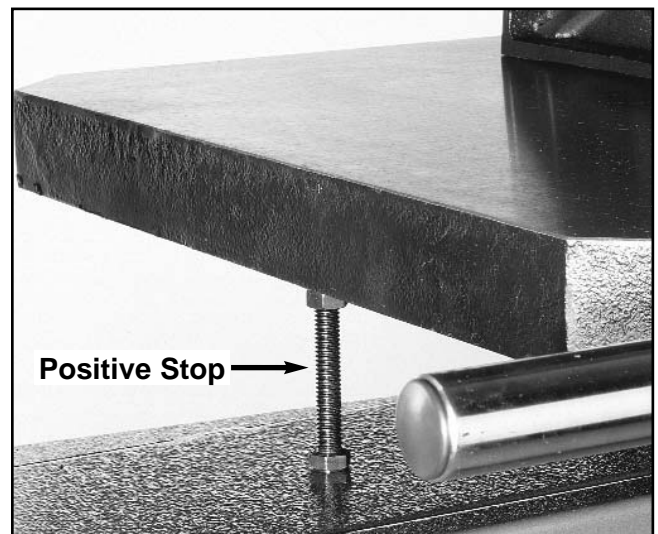

Figure 8. Location of positive stop adjustment.
1. Loosen the trunnion lock handle and check nut locking the positive stop adjusting bolt. See **Figure 8**.